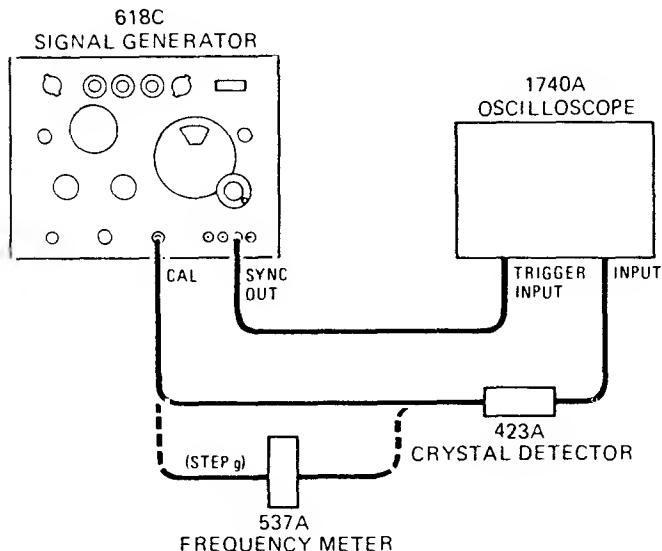
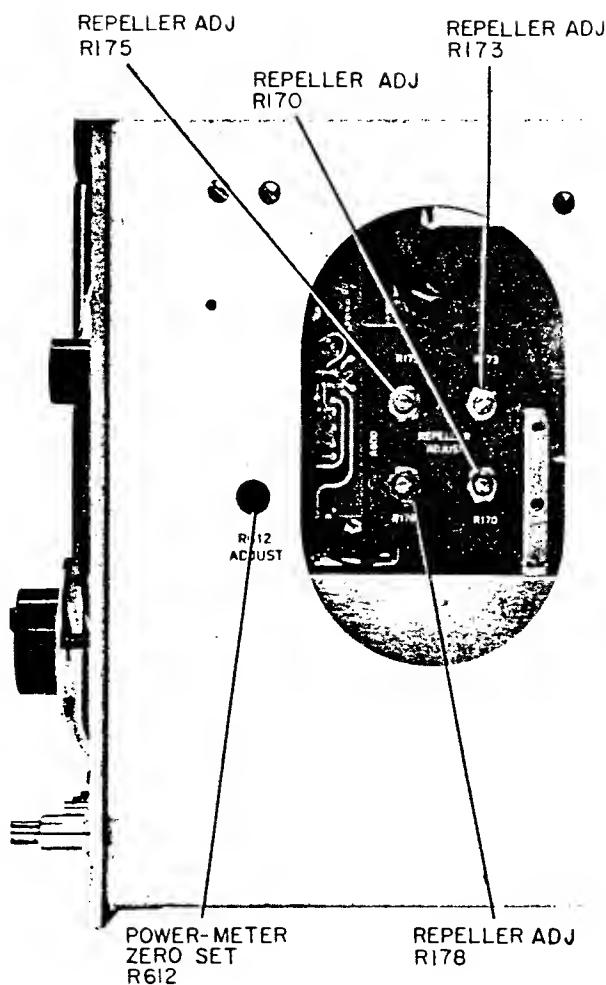
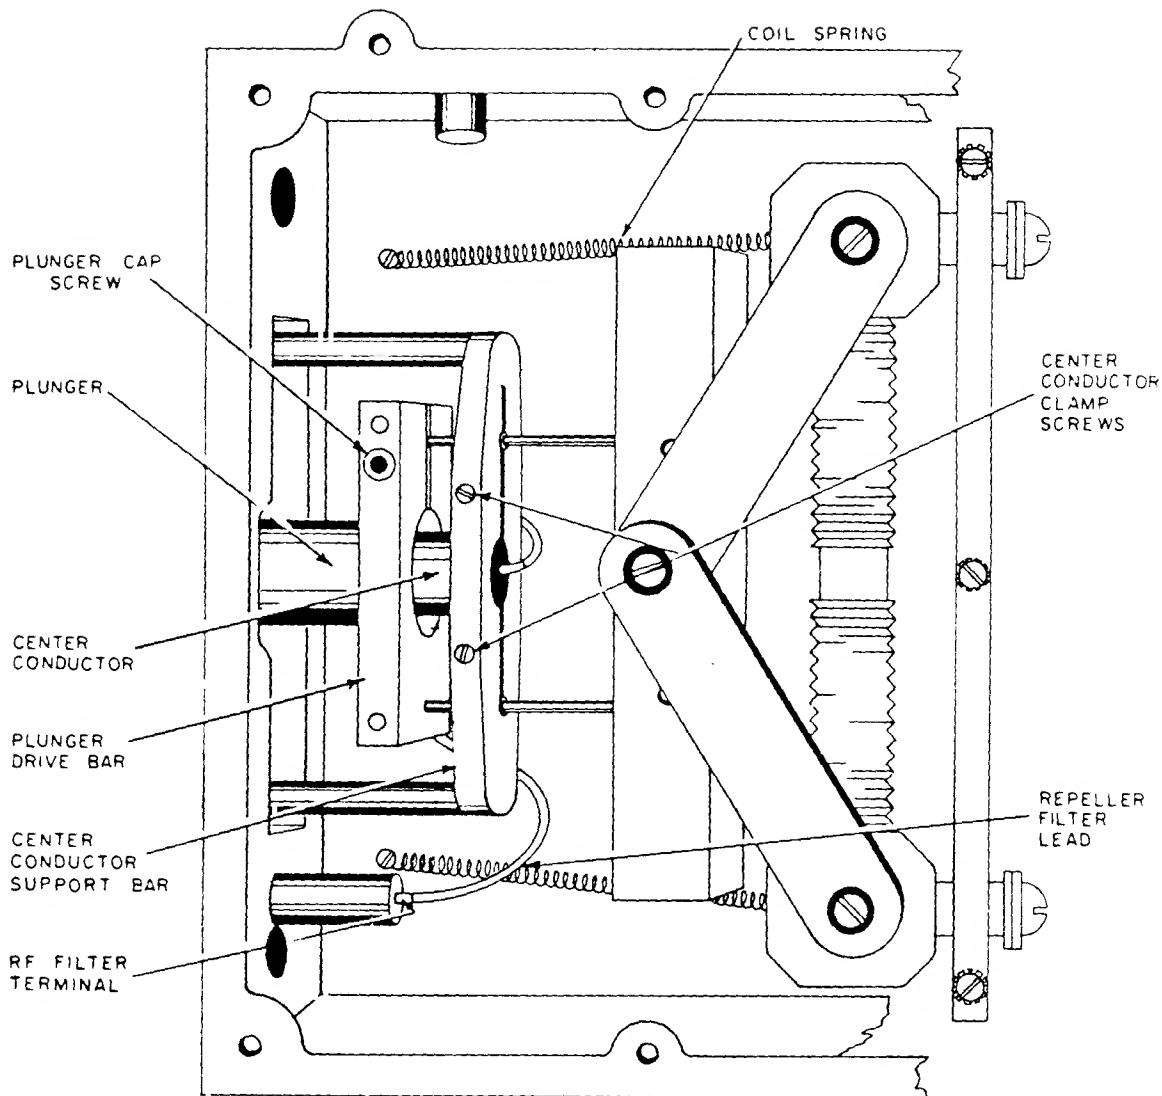

Figure 5-9. Setup for Frequency Dial Calibration (618C)
Figure 5-11. Location of Tracking and Power-Set Meter Adjustments
Figure 5-13. Frequency Drive Mechanism, Cover Plate Removed (620B)
d. Connect instrument as shown in Figure 5-9.
g. At this point it is advisable to check the dial calibration at the high end stop. This check avoids possible retracking adjustments when the dial calibration is adjusted later. To conduct the check, tune frequency control to high end stop and place wavemeter in circuit as shown in Figure 5-9. Wavemeter should indicate 7.650 GHz. When the wavemeter is tuned to the actual frequency of the generator a slight decrease in the peak level of the pulse appears on the scale. If this frequency is more than 25 MHz away from 7.650 GHz perform step d in paragraph 5-34.
h. Remove wavemeter and reconnect output cable as shown in Figure 5-9. Tune the frequency control toward 5 GHz, adjusting R170 (Figure 5-11) for best pulse shape between 7.6 and 5 GHz.
i. Tune the frequency control between 5 and 4.2 GHz; adjust R173 and/or R178 (Figure 5-11) for optimum pulse shape.
- Adjust POWER SET control to obtain up-scale indication on the power set meter. If necessary, adjust potentiometer R170 (Figure 5-11) to obtain proper meter indication. Recheck klystron beam current (25 mA maximum).
n. Measure Signal Generator output frequency with Frequency Meter. If the measured frequency is below 11.1 GHz, remove bottom plate from frequency drive mechanism and perform (1) through (4) following; if not, perform (5) through (9) following:
- (1) Loosen plunger cap screw (Figure 5-13).
- (2) Adjust Frequency Meter to 11.1 GHz.
- (3) Gently tap rear of plunger until Frequency Meter dip is centered on mode pattern.
- (4) Tighten plunger cap screw and replace bottom plate.
- (5) Set Frequency Meter to 11.1 GHz.
- (6) Adjust frequency dial until Frequency Meter pattern is centered on the mode pattern.
- (7) Loosen plunger cap screw.
- (8) Turn frequency dial to high frequency stop while holding plunger stationary.
- (9) Tighten plunger cap screw and replace bottom plate.
p. Tune Signal Generator across entire band and center repeller mode pattern with repeller tracking potentiometer R170, R173, R175, and R178 (Figure 5-9). Figure 5-12 (A and C) shows two typical mode patterns. Figure 5-12A shows a symmetrical mode pattern that is properly centered by the correct repeller voltage; Figure 5-12B shows the same pattern set off-center by incorrect setting of repeller voltage. Adjust potentiometer R170 and R178 (Figure 5-11) to obtain correct repeller voltage tracking between 11 GHz and the frequency just above the point where the microswitch is actuated (approximately 8.7 to 9 GHz). Adjust potentiometers R173 and R175 (Figure 5-11) to obtain correct repeller voltage tracking between the frequency just below the point where the microswitch is actuated (approximately 8.6 GHz) and 7 GHz.
h. Refer to Figure 5-13 and loosen the cap screw holding the plunger in the plunger-drive bar.
a. Remove instrument cover for access to R612 (see Figure 5-11).
c. Adjust POWER SET until meter pointer is about 3 8 inch to the right of zero (0).